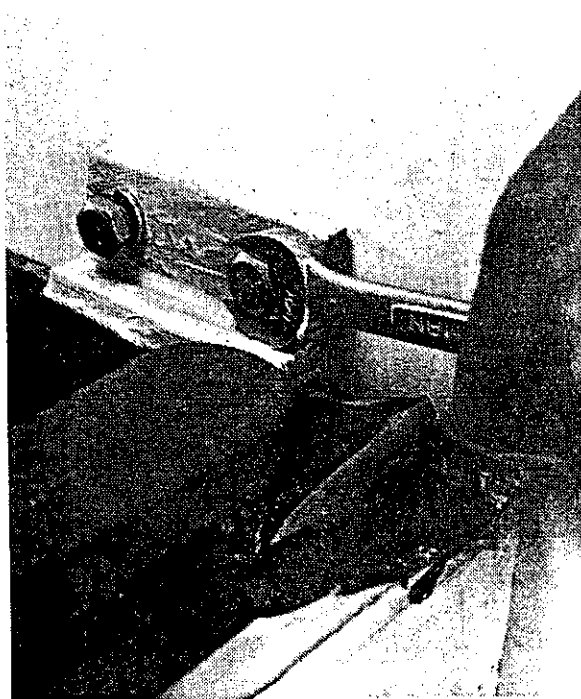

Figure 5-98
6. Remove the two battery retainer angles. One located at the left rear, the second at the right front of the compartment (Fig. 5-98). Use a 9/16 wrench to remove the two hex head bolts from each retainer.